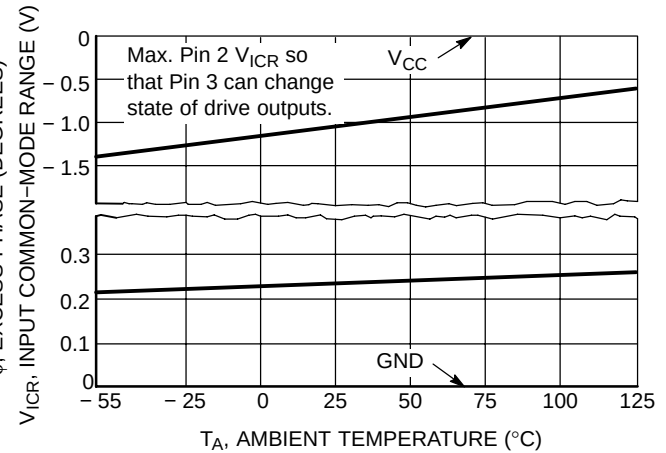

Figure 4. Window Detector Reference-Input Common-Mode Voltage Range versus Temperature
3. The upper or lower hysteresis will be lost when operating the Input, Pin 3, close to the respective rail. Refer to Figure 4.
It must be remembered that points V_1 through V_4 always try to follow and center about the reference voltage setting if it is within the input common-mode voltage range of Pin 3; Figures 4 and 5. Initially consider that the feedback input voltage level is somewhere on the dashed line between V_2 and V_4 in [1]. This is within the dead zone range as defined above and the motor will be off. Now if the reference voltage is raised so that $V_{Pin\ 3}$ is less than V_4 , comparator B will turn-on [3] enabling Q Drive, causing Drive Output A to sink and B to source motor current [8]. The actuator will move in Direction B until $V_{Pin\ 3}$ becomes greater than V_1 . Comparator B will turn-off, activating the brake enable [4]